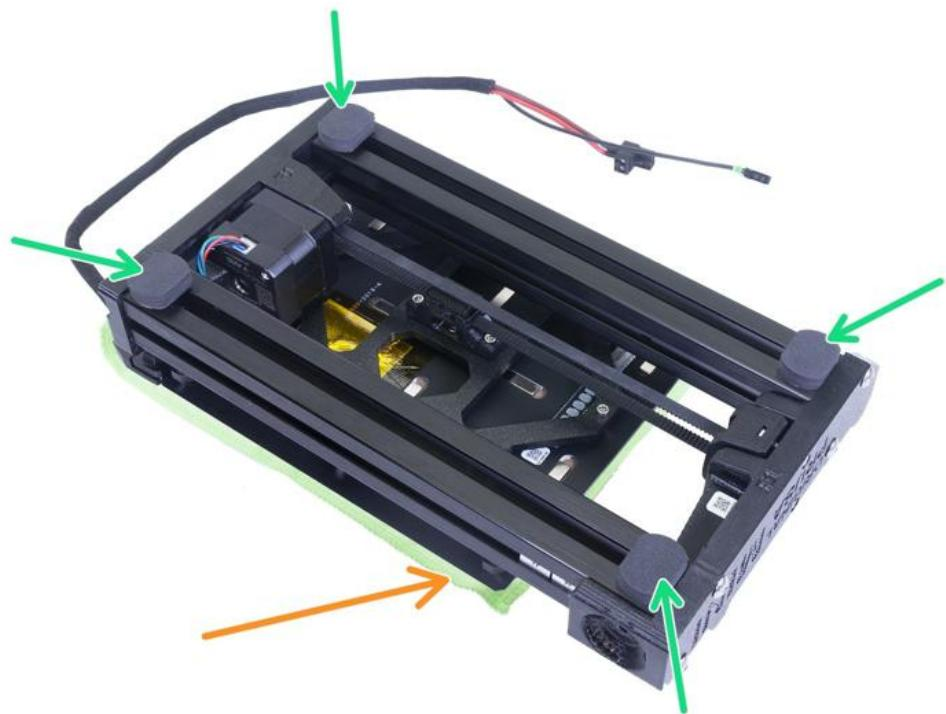

Figure 5.1.4
**C:** Install four foam pads on the four corners of the Y-axis module base as shown in Figure 5.1.4.